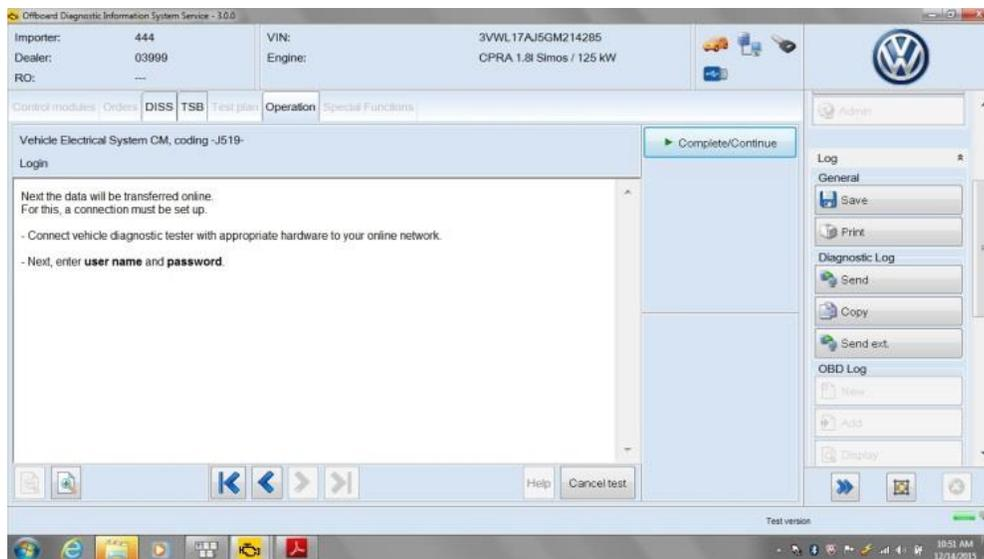

Figure 8
- Enter Geko ID and password and depress Complete/continue. (Figure 8)